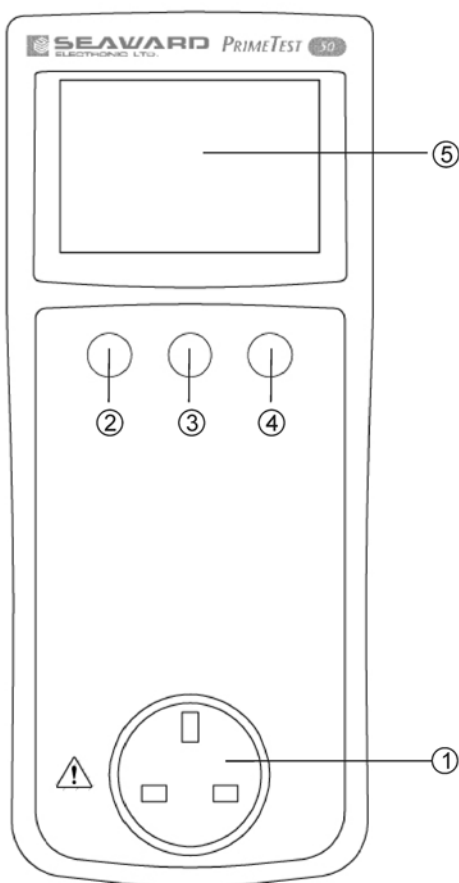
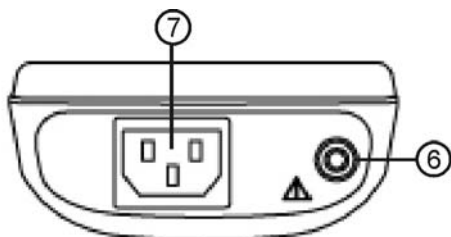

Figure 1. PrimeTest 50 Front View
Figure 2. PrimeTest 50 End View
**Numbers shown in circles e.g. ① refer to figure 1 and figure 2 on page 5.**
- Mains socket on front panel ① for connecting the appliance under test.
- 4mm socket on end panel ⑥ for earth test probe
- IEC socket on end panel ⑦ for mains cord testing.